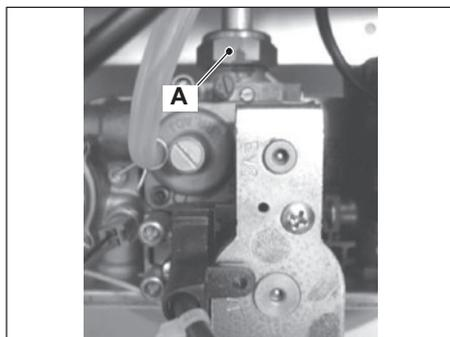

Fig. 8.2
- Unscrew the connector A (Fig. 8.2), remove the fixing fork B and remove the pipe C (Fig. 8.3).